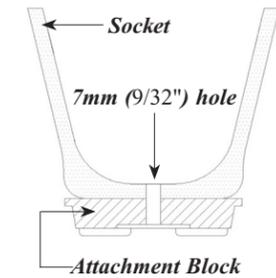
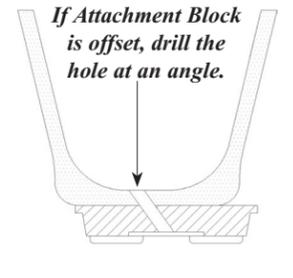

Figure 1
Figure 2
1. Drill a 7mm (9/32") diameter hole in the center of the socket (Figure 1). If the 4-hole attachment block is offset with respect to the socket, drill the hole at an angle from the center of the Attachment Block to the center of the distal end of the socket (Figure 2).